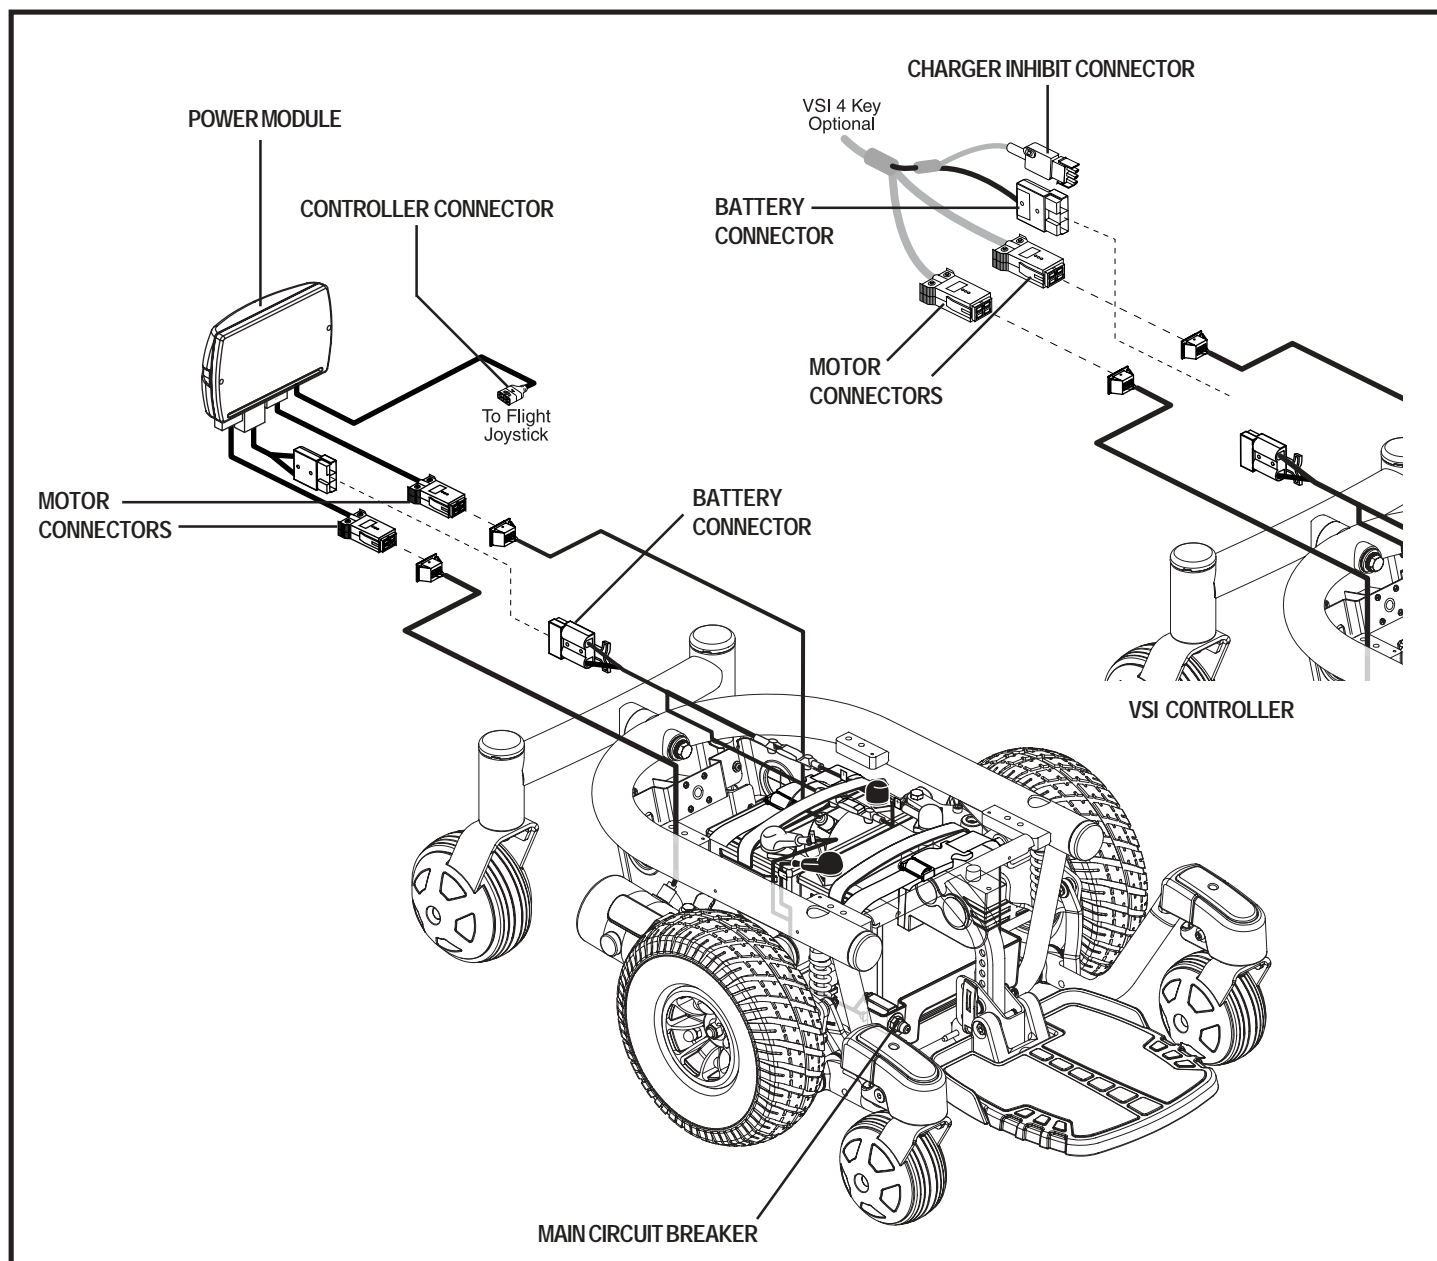

Figure 7. Jazzy 610 Series Electrical Components
The electrical components are located inside the power base. The main circuit breaker is located on the front of the battery tray. The controller connector(s) are located inside the power base. See figure 7.
7. Plug the controller connector(s) into the power base. See figure 7.
3. Disconnect the controller connector(s) from the power base. See figure 7.